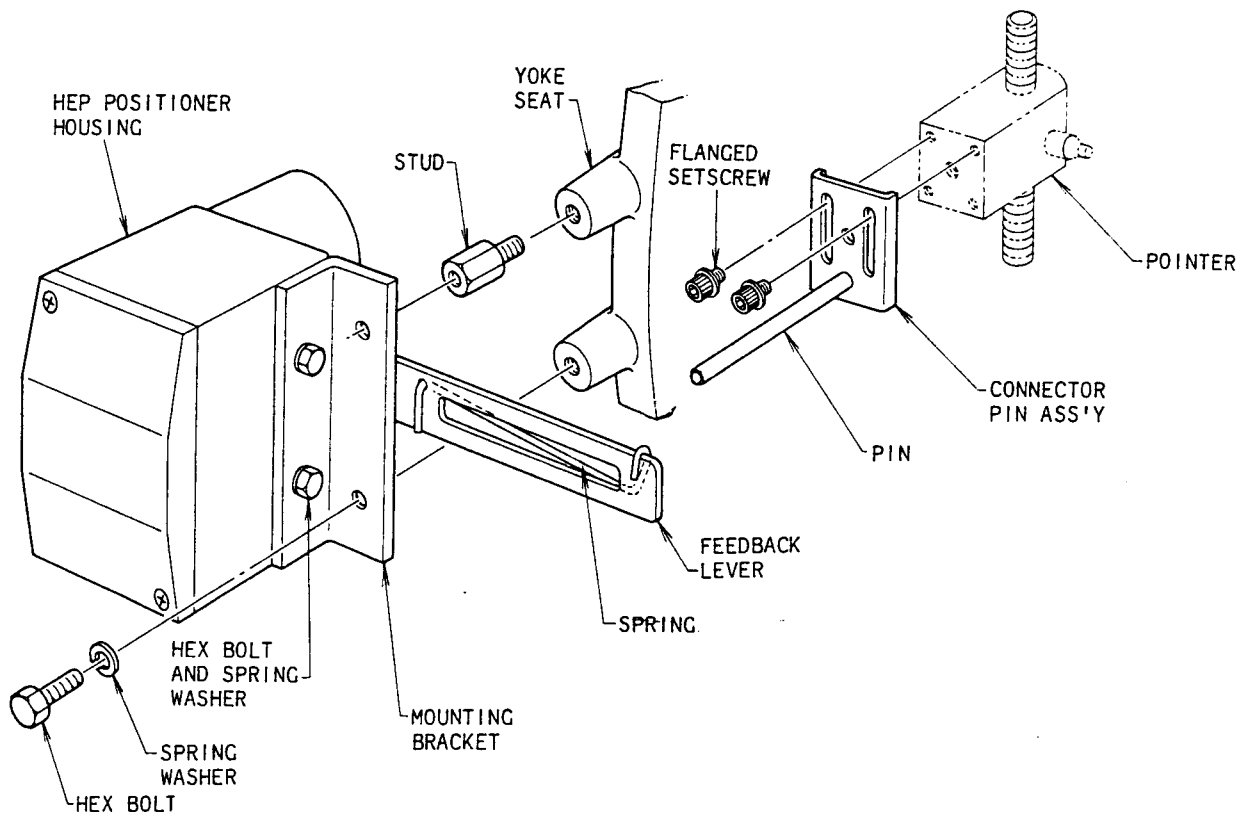

Fig. 5. Drawing for Installing the Positioner
Fix tentatively the connector pin assembly to the pointer with the flanged setscrews. (See Fig. 5.)
- (1) Fix the mounting bracket to the positioner with the hex bolts (M8x20) as shown in Fig. 5.
- (2) Pass the connector pin through the oblong hole of the feedback lever and fix the positioner to the actuator with the hex bolts (M8x20) and spring washers. Set the nylon nut on the threaded section of the connector pin.